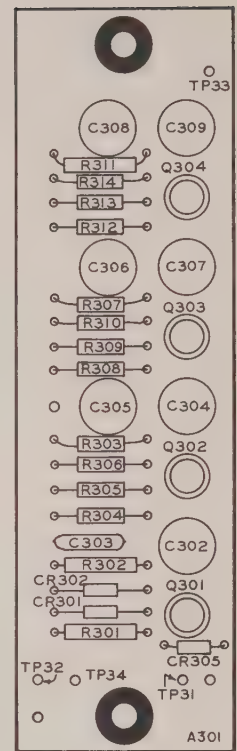

Fig. 5-2 Pre-Amplifier Board Assembly
B. Checking Modulator and Pre-Amplifier Stages. Locate test point, TP33, on pre-amplifier board (See Fig. 5-2) and unsolder the brown lead connected to it. This disconnects the output of the pre-amplifier from the main amplifier. The wave shape of the amplified, chopped signal at TP33, can be observed, as seen on the pre-amplifier circuit schematic. After unsoldering the brown lead, but before making this wave shape measurement adjust the galvanometer to Zero, using the Zero Control.